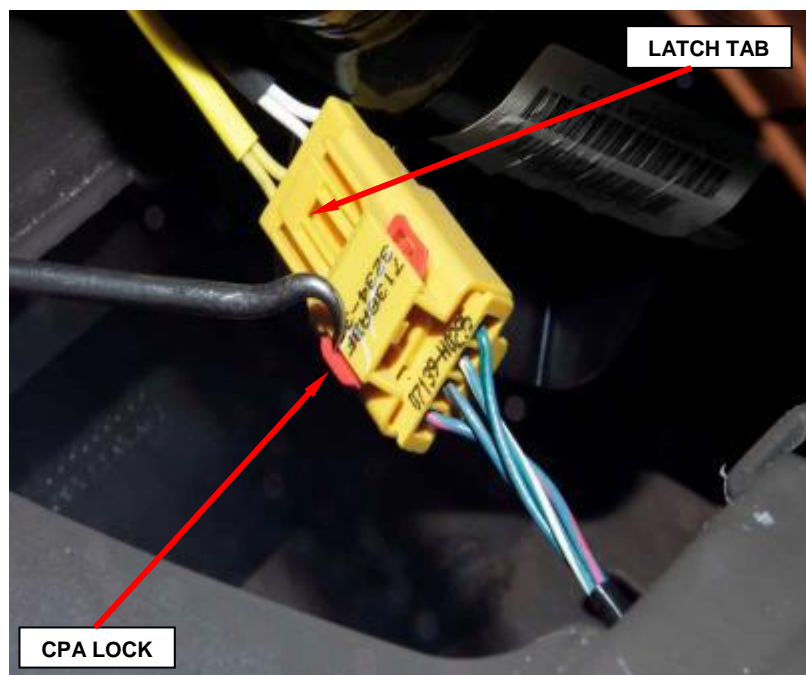

Figure 44 – Airbag Inflator Pigtail Connector
- a. Slide the red Connector Position Assurance (CPA) lock on the connector toward the side of the connector (Figure 44).
10. Connect the instrument panel wire harness connector for the airbag to the passenger airbag inflator pigtail wire connector on the right side of the airbag mounting bracket. Be certain that the latch on the connector and the red Connector Position Assurance (CPA) lock are each fully engaged (Figure 44).